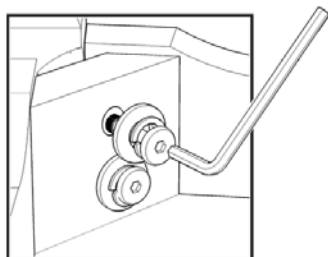

Figure 1
Attach Leg (D) and (E) to Seat (A) with Flat Washers, Spring Washers and Head Cap Bolts. Tighten Head Cap Bolts only half way. (See Figure 1)